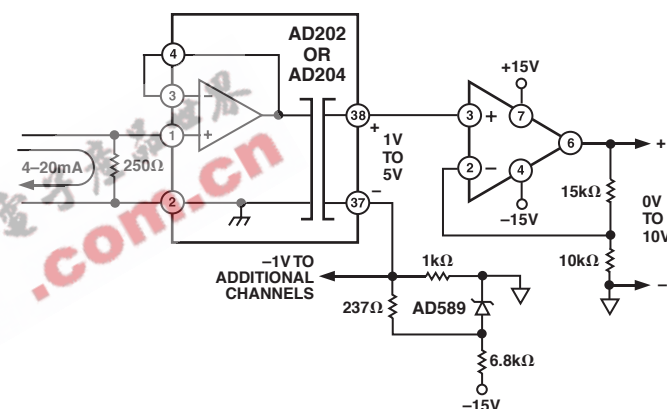

Figure 18. Process Current Input Isolator with Offset
**Process Current Input with Offset.** Figure 18 shows an isolator receiver that translates a 4-20 mA process current signal into a 0 V to 10 V output. A 1 V to 5 V signal appears at the isolator's output, and a -1 V reference applied to output LO provides the necessary level shift (in multichannel applications, the reference can be shared by all channels). This technique is often useful for getting offset with a follower-type output buffer.